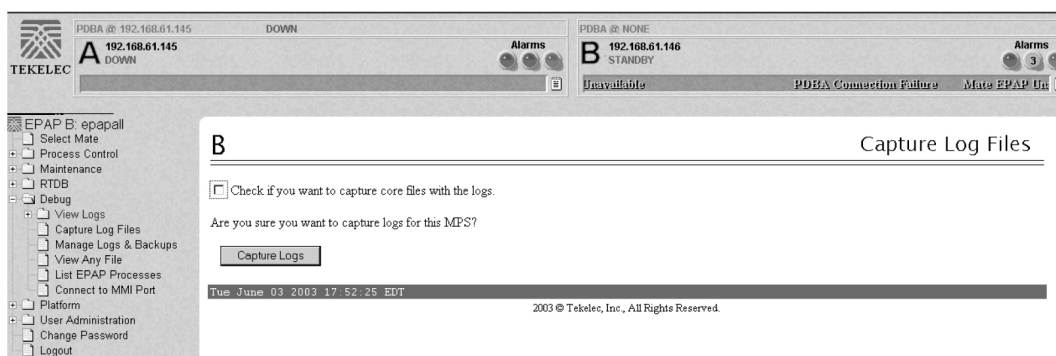

Figure 55: Capture Logs File Screen
4. Deselect (if necessary) the box labeled Check if you want to capture core files with the Logs, as shown in Figure 55: Capture Logs File Screen.